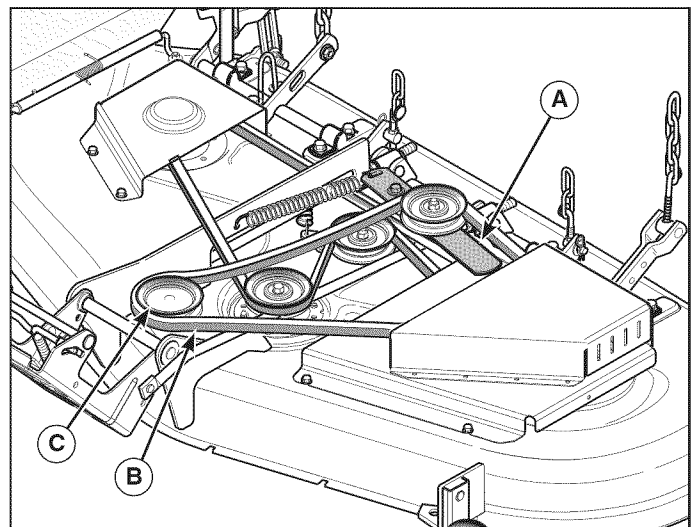

Figure 17
4. Pull the idler pulley lever (A, Figure 17) to release belt tension. Remove the belt (B) from the PTO pulley (C).
7. Pull the idler pulley lever (A, Figure 17) to release belt tension. Install the belt (B) on the PTO pulley (C).